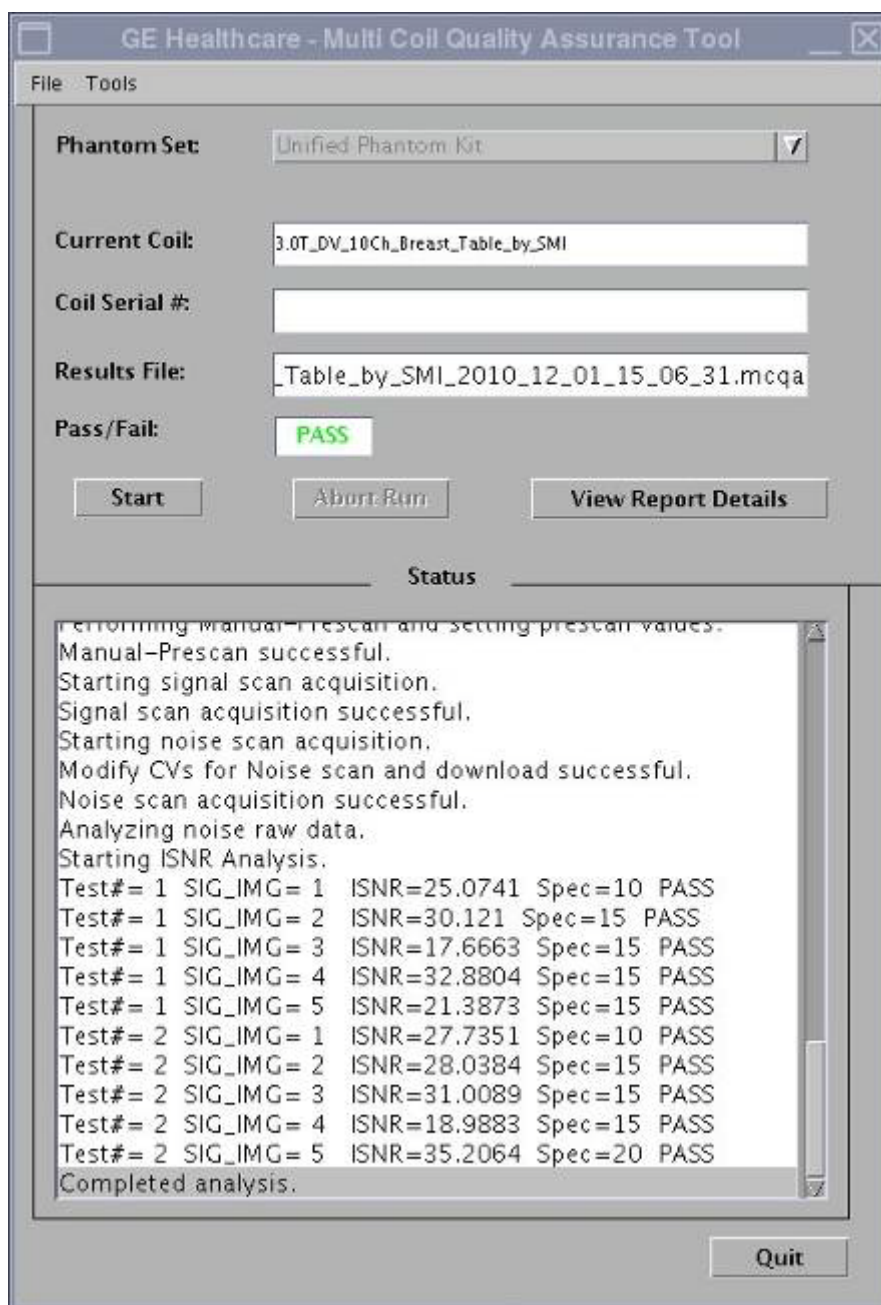

Figure 34: Screen Capture – MCQA Tool Finish
7. Click 'Start', and answer 'Yes' to the dialog box that opens. The MCQA program will run for approximately 10 minutes, and test each channel of the system independently. When the program finishes, the screen capture shown in Figure 34 will display.
8. The MCQA program will display a PASS/FAIL indicator for each image (SIG_IMG in Figure 34) which corresponds to a particular channel on one of the coils tested. If you receive a FAIL indication, check that all coils are connected properly and rerun the test. If the test fails the second time refer to the table below.